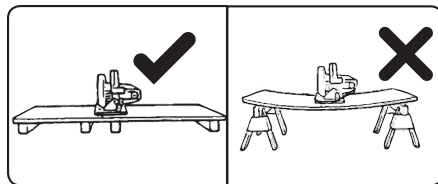

Fig. 8
- Place supports underneath large areas at the edges and near the location of the cut to reduce the risk of the saw blade becoming clamped and the resulting kickback due to the board bending (fig. 8).